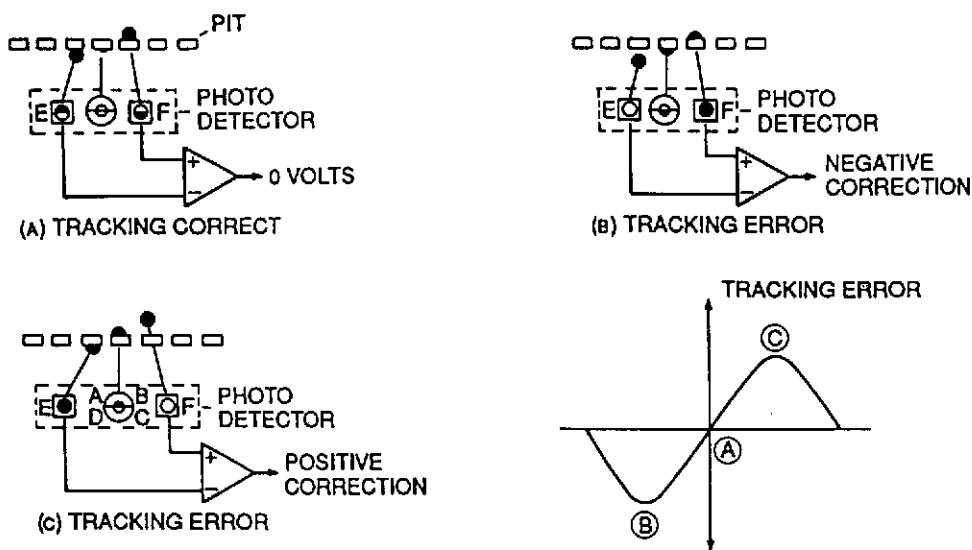

Fig. 5
3. Remove the front panel (Figure 5).
Fig. 5 Shows the principle of the tracking error detection system which employs the three beam system. The laser beam is divided into the main beam and two sub-beams by diffraction grating and they are arranged on one line. The center line connecting these three beams has a slight offset angle against the main beam. The main beam is received by photodiodes A, B, C and D and two sub-beams by E and F respectively.
Fig. 5-A shows the on-track state. As both auxiliary beams 1 and 2 are slightly on the track in this state, the outputs of photodiodes E and F are equal and the tracking signal is 0(zero). When the track is shifted to the left (Fig. 5-B), the auxiliary beam 1 is off the pit. This allows more light to be received by the photodiode E, resulting in positive (+) tracking signal output. On the other hand, when the track is shifted to the right (Fig. 5-C), the amount of light received by the photodiode F increases, resulting in negative (-) tracking signal output. And these extreme signals are detected as tracking error signals.